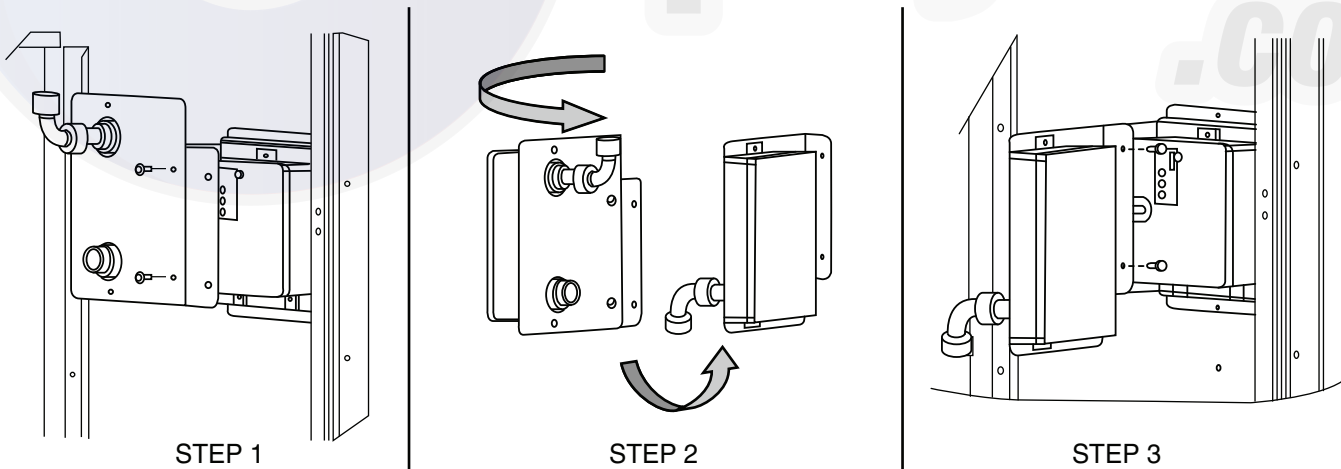

Fig. 57 — Completing Installation of Return Air Smoke Sensor
1. Unscrew the two screws holding the return-air smoke detector assembly. See Fig. 57, Step 1. Save the screws.
2. Turn the assembly 90 degrees and then rotate end to end. Make sure that the elbow fitting is pointing down. See Fig. 57, Step 2.
3. Screw the sensor and detector plate into its operating position using screws from Step 1. See Fig. 57, Step 3.